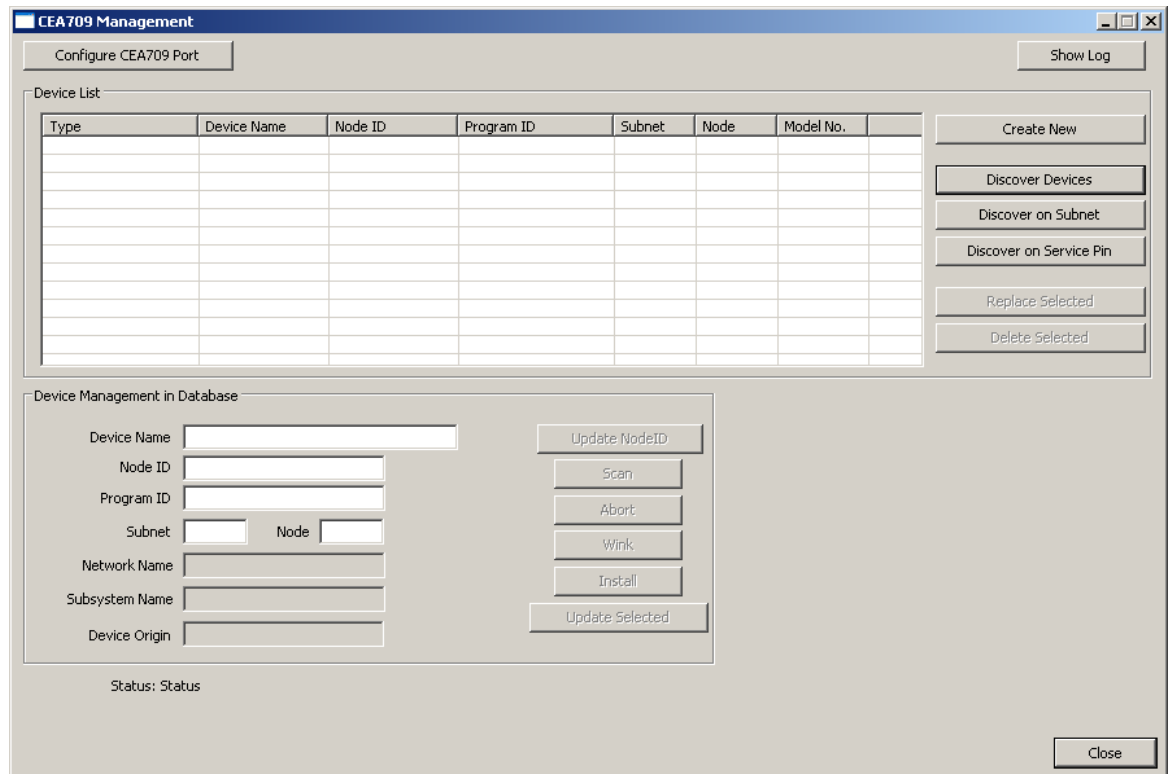

Figure 105: CEA-709 network scan dialog.
- Right-click on that folder and select **Scan CEA709/852 Network....** This opens the **CEA709 Management** dialog as shown in Figure 105.